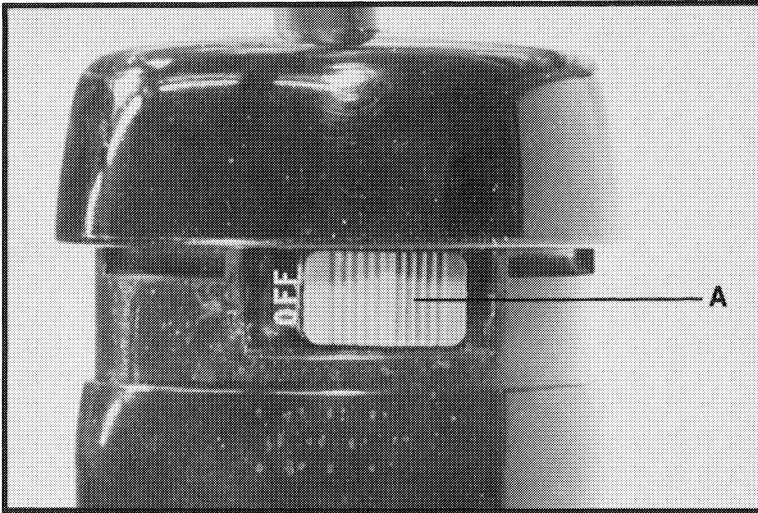

Fig. 1
The switch bar (A) Fig. 1, is located immediately below the motor cap. To start motor: grasp tool firmly to resist starting torque, slide bar sideways so ON is in view. To stop motor: slide bar in opposite direction so OFF is in view.